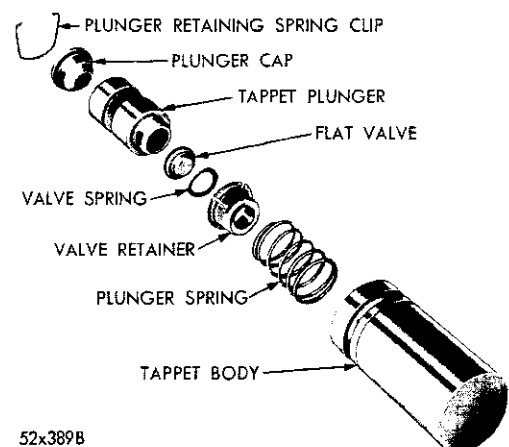

Fig. 18—Hydraulic Tappet Assembly (Disassembled View)
### Disassembly (Fig. 18)
(3) If the plunger shows signs of scoring or wear and the valve is pitted, or if the valve seat on the end of the plunger indicates any condition that would prevent the valve from seating, install a new tappet assembly.
(4) Assemble the tappets, as shown in Figure 18.